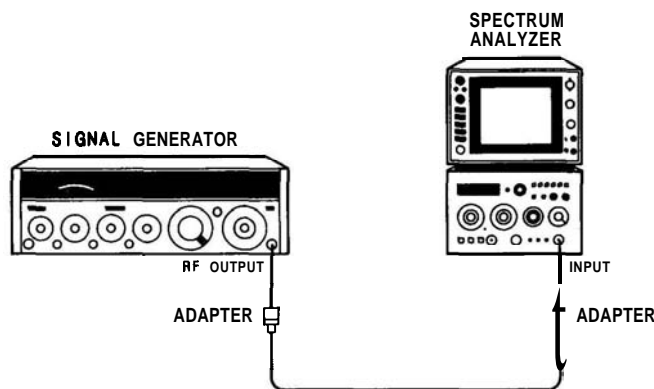

FIGURE 4-12. RESOLUTION BANDWIDTH SELECTIVITY TEST SETUP, 100 kHz TO 3 MHz
12. Connect equipment as shown in Figure 4-12.